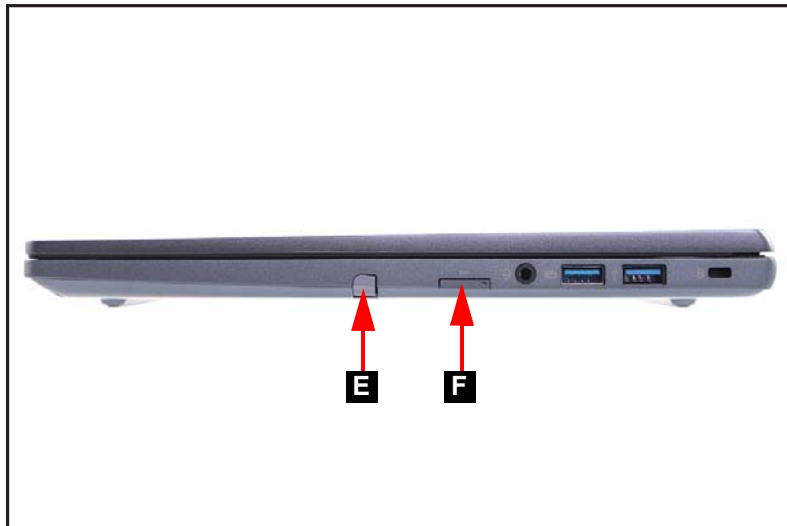

Figure 1-3. Stylus Pen and SIM Card Removal
5. Remove the stylus pen from the stylus pen slot (E) (Figure 1-3).
6. Insert the eject tool into the hole on the SIM card tray (F). Then push to eject the card tray and remove the SIM card (Figure 1-3).